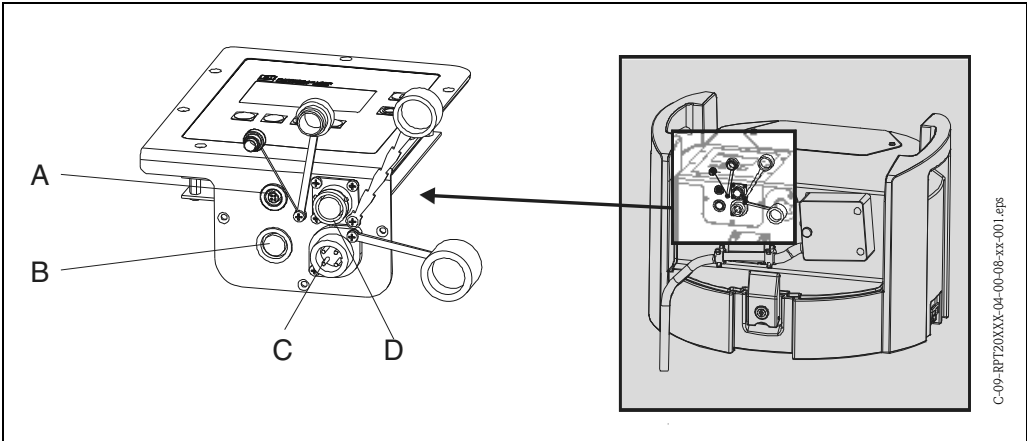

Fig. 4: Unit electrical connection
4.1.1 Signal cable connections (=> Fig. 4, pos. B)
4.1.2 Connecting the RS232 interface (=> Fig. 4, pos. A)
4.1.3 Connecting the battery charger (=> Fig. 4, pos. C)
4.1.4 Multi-parameter probe connection (optional; => Fig. 4, pos. D)